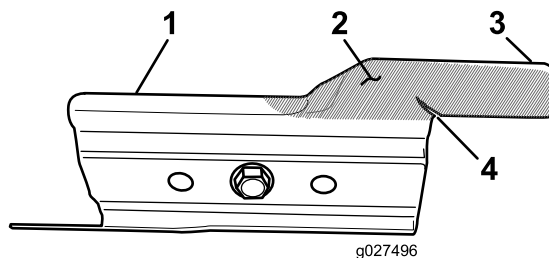

Figure 27
Carefully examine the accelerator for excessive wear (Figure 27). Because sand and abrasive material can wear away the metal (especially in the area shown as item 2 in Figure 27), check the accelerator before using the machine. If you notice that a tab on the accelerator has been worn down to a sharp edge or there is a crack, replace the accelerator; refer to Removing the Blade (page 21).